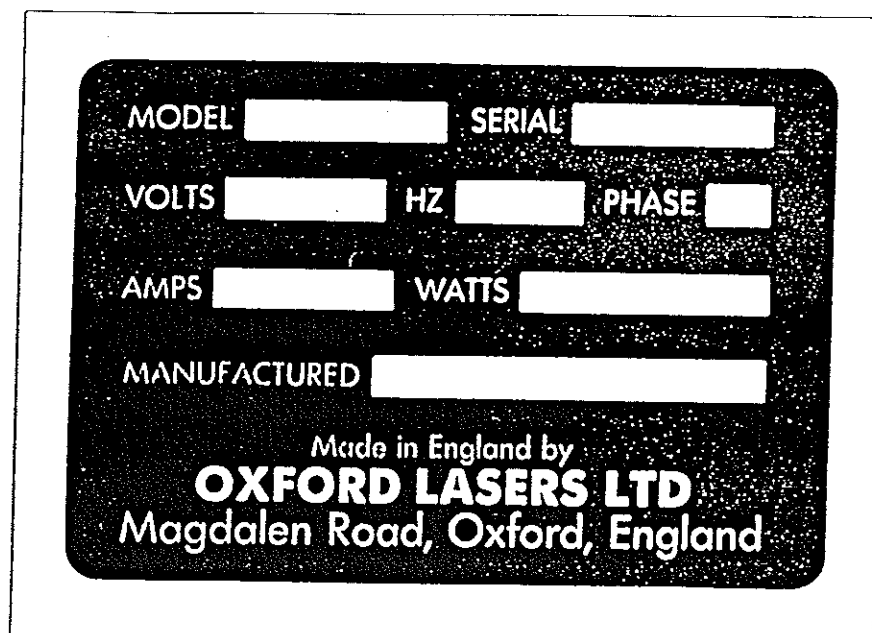

Figure 2.6 Manufacturer's label (USA)
- (9) **MANUFACTURER'S LABEL:** The manufacturer's label shown in Figure 2.6 is affixed to the rear panel of the power supply unit, in the lower right hand corner.